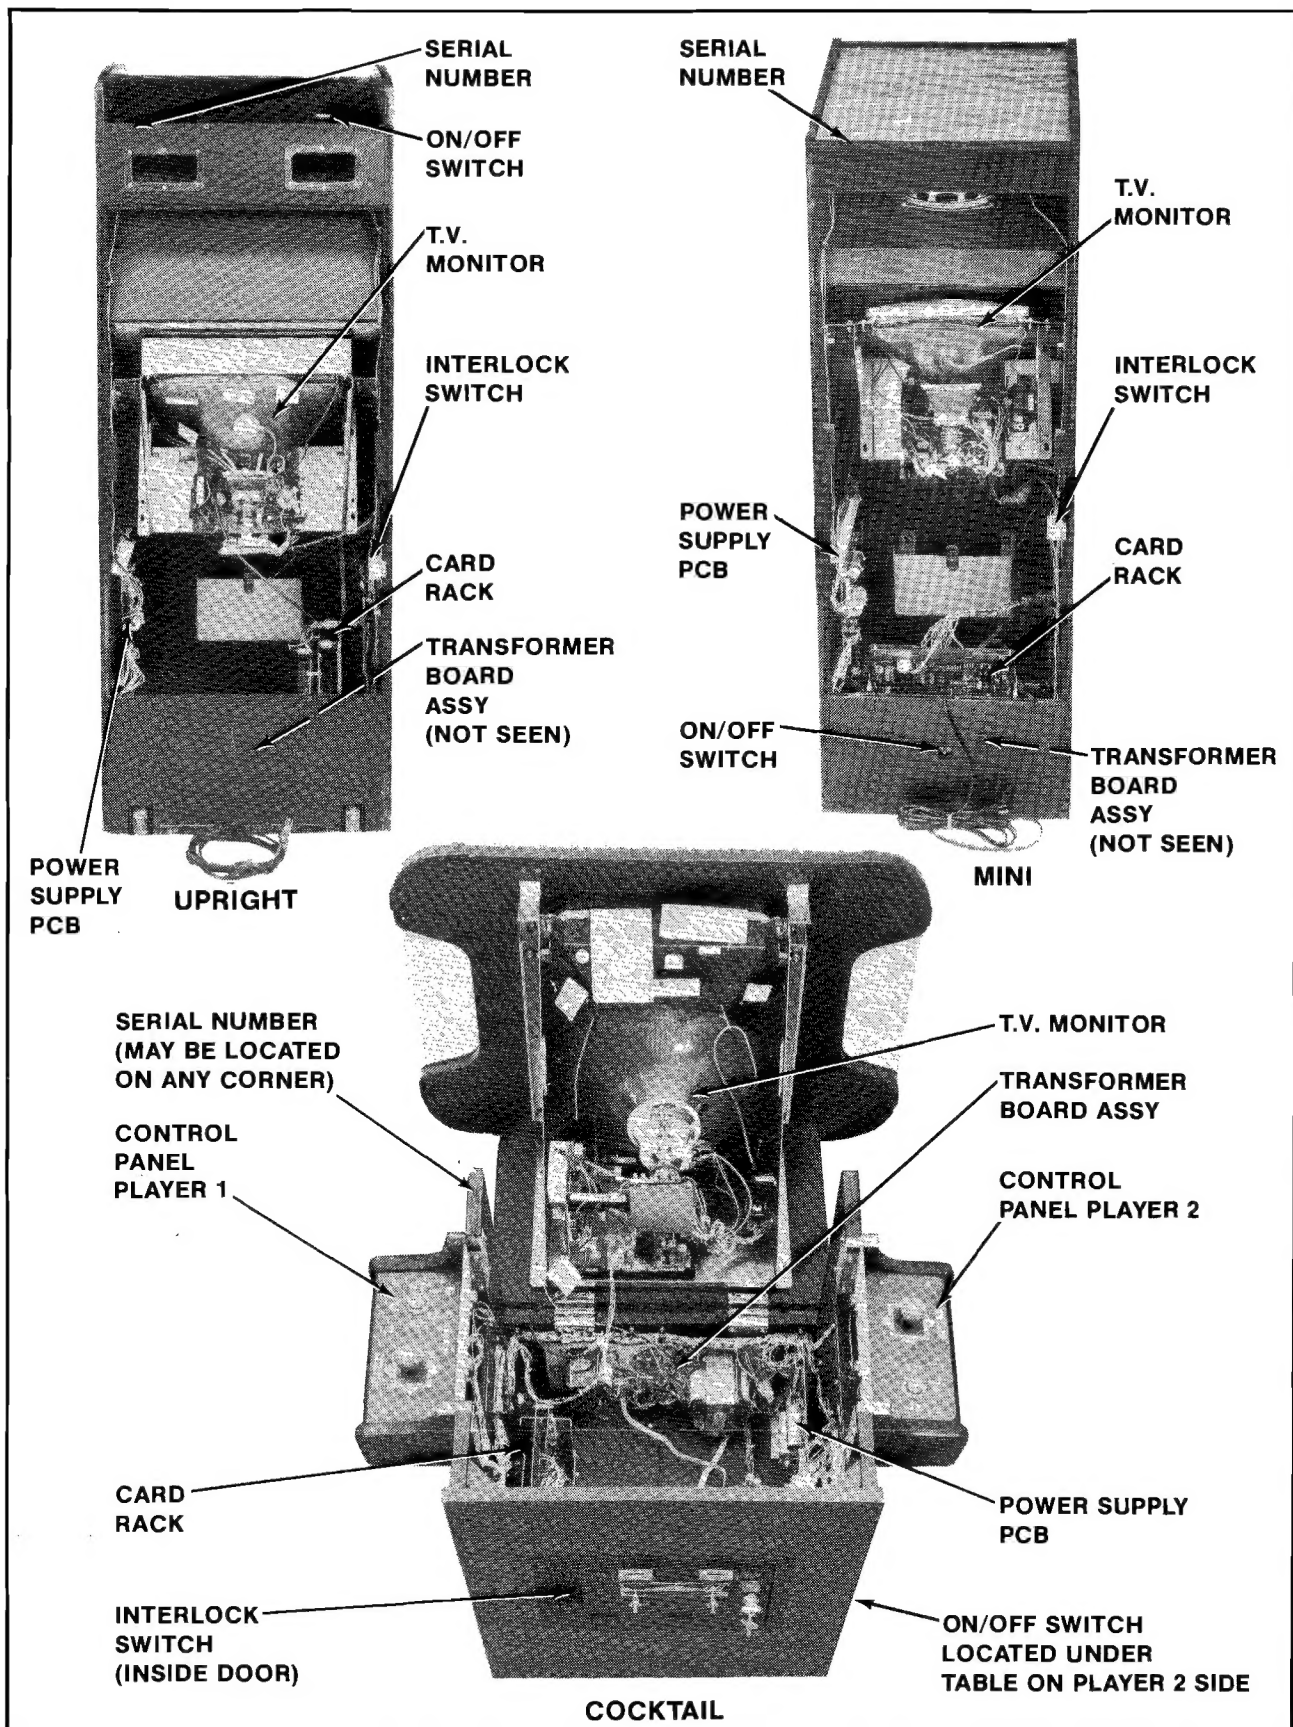

Figure 2 Location of serial number, interlock switch, on/off switch & major subassemblies
5. Open the cabinet and inspect the inside of the game for any signs of damage. See Figure 2.
- Make sure all printed circuit boards (P.C.B.'s) are firmly seated in their connectors. See Figure 2. These connectors are also keyed. The P.C.B.'s will only go into them one way without being damaged.
- Note the location of the game's serial number. See Figure 2.
- Check all major subassemblies to be sure they are mounted securely. These are called out in Figures 2 & 3.
3. Interlock and power ON/OFF switches. See Figure 2.
The game ON/OFF switches for all models are located as shown in Figure 2. Turn the game on and allow it to warm up a few minutes.